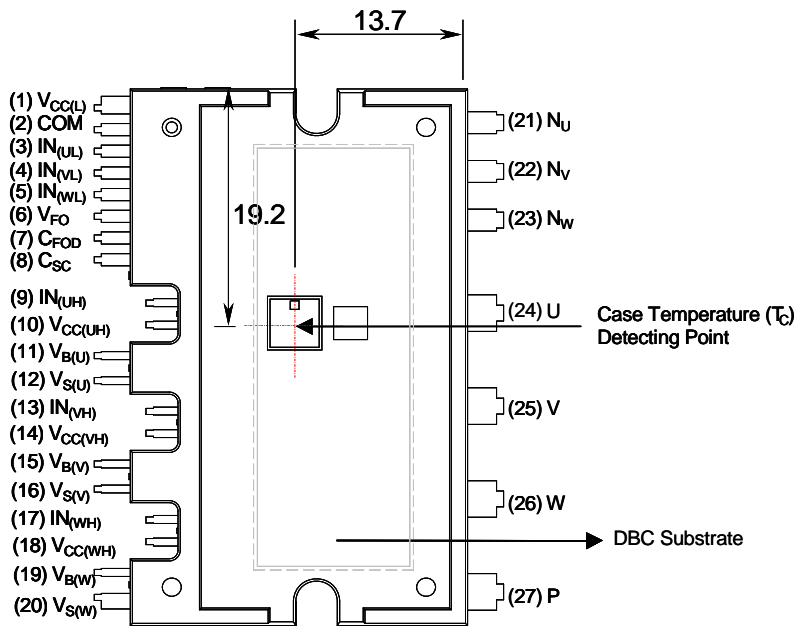

Figure 2. Top View
- For the measurement point of case temperature(T_C), please refer to Figure 2.